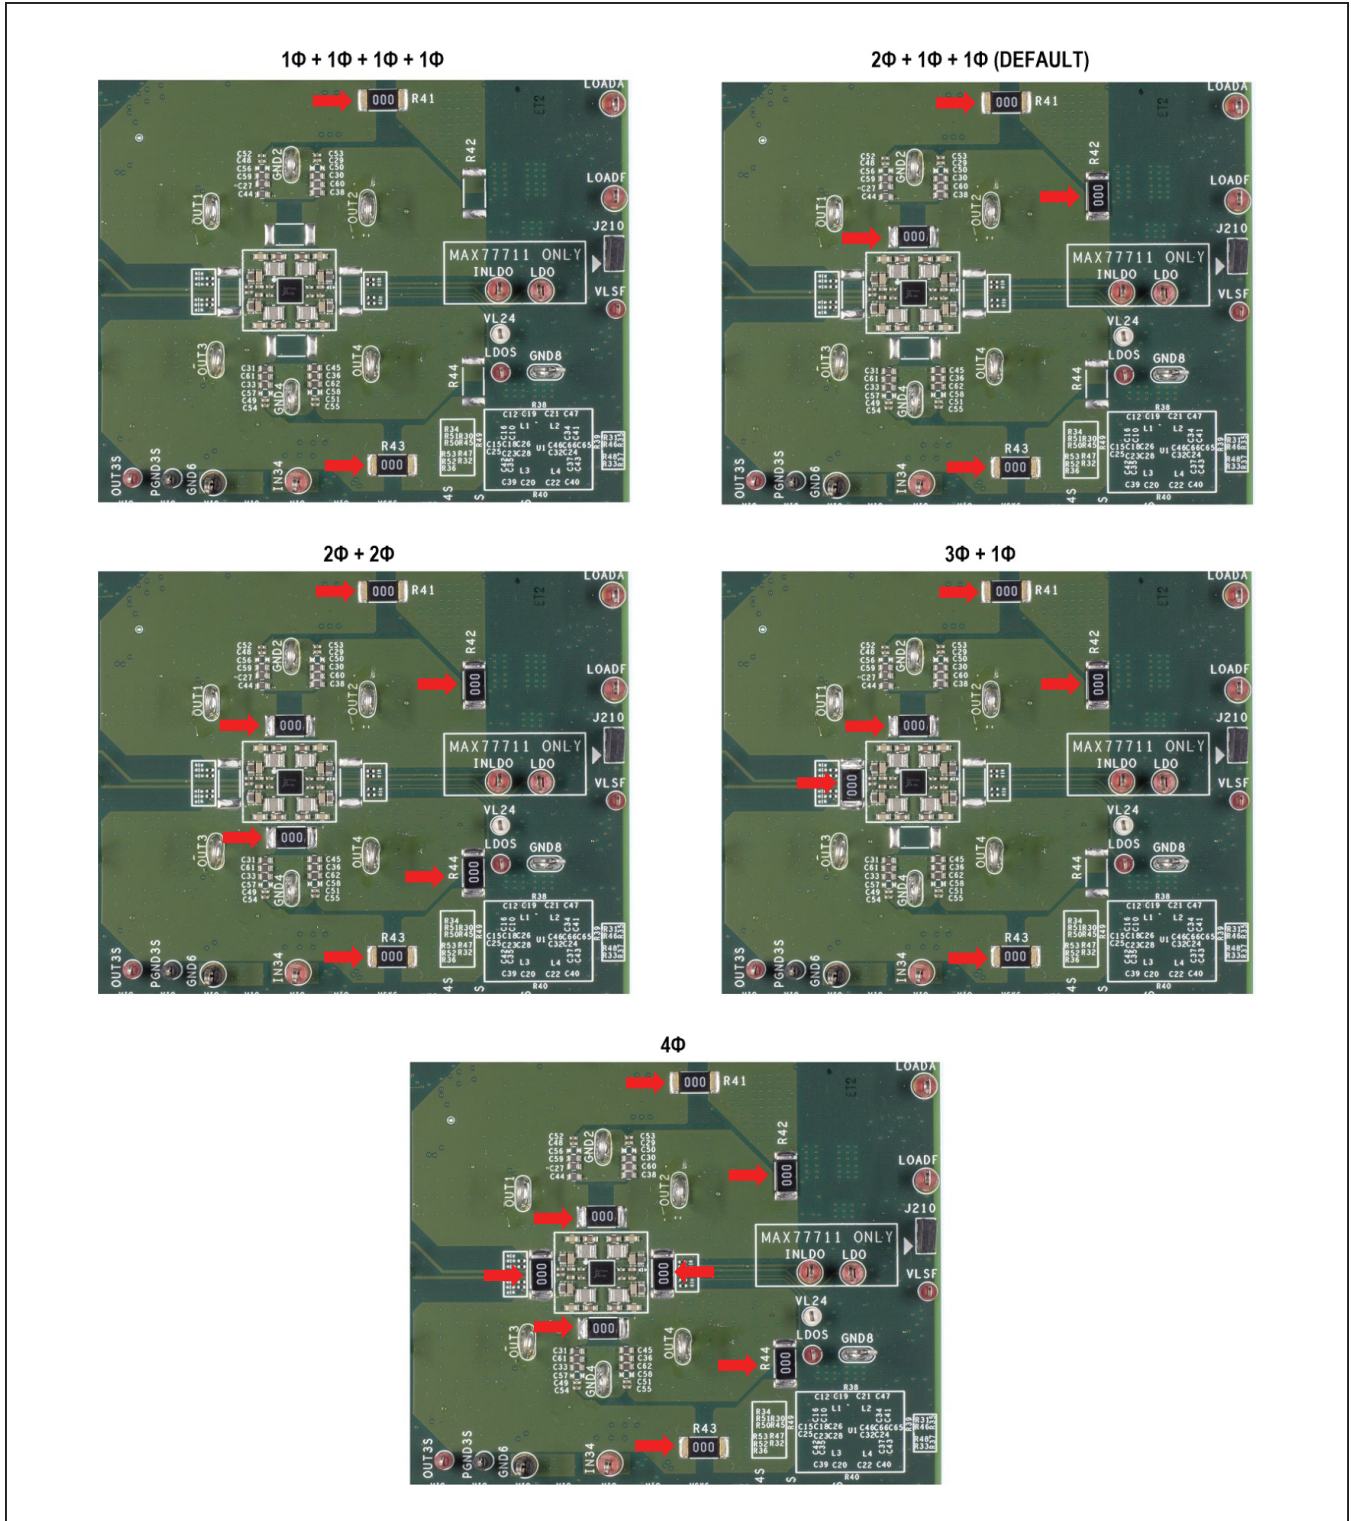

Figure 5. EV Kit 0Ω Installation for Different Phase Configurations
- 2) Configure the 0Ω resistors on the EV kit (R38 through R44, and R49) for the phase configuration programmed in step 1. See Table 2 and Figure 5.